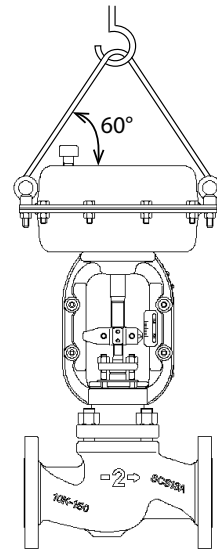

Figure 2-1. Example of hoisting
5. If the eyebolts are used to hoist the control valve, the angle between the actuator and the wire rope must be 60° or more. ( Figure 2-1).